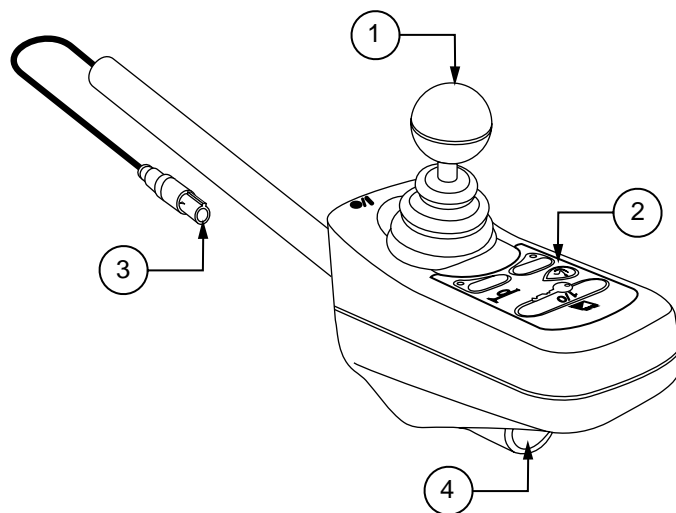

Figure 25. Europa Master Remote
- Europa master remote (see figure 25)